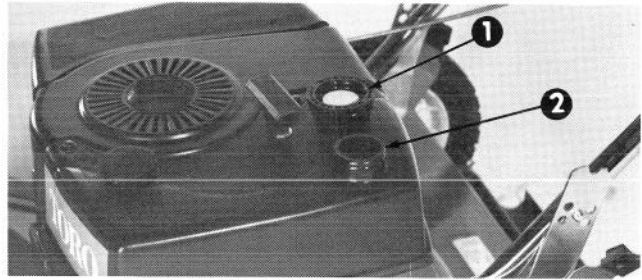

Figure 6
1. Clean area around fuel tank cap and remove cap from tank (Fig. 6).